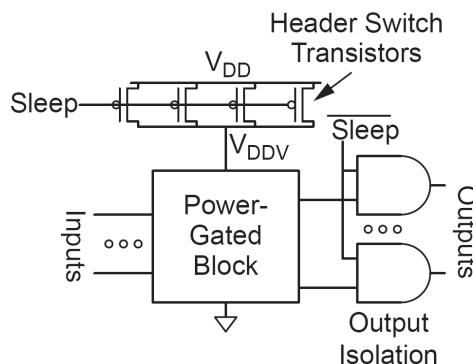

Figure 1. A power-gating arrangement with a pMOS header switch.
In Figure 5.24 in Weste & Harris (repeated below in Figure 1) a pMOS header switch for power gating is seen. Such a switch is used to turn off the static power consumption when a block is not in use. The header switch should be designed such that it does not cause too large an increase in the delay when the gated block is operating. Suppose the pMOS transistor has an ON resistance of $2.5 \text{ k}\Omega \mu\text{m}$ and the block being gated has an equivalent ON current of 100 mA. V_{DD} is 1.2 V for our process as usual.
- a) Write down the spans for the nine black and six grey PG cells that are numbered in Figure 1. As an example for the black cell, which is above grey cell number 2, the span is 3:2. See also Figure 11.29 in Weste & Harris (this chapter can be downloaded from the CMOS VLSI web site).
- c) If we assume just straight lines in the white space at the bottom of the tree in Figure 1, which of the 32 sums cannot be formed from the tree as shown in Figure 1?
- e) If we (incorrectly) assume that all black and grey PG cell have the same propagation delay (which we call 1 unit delay), which sum(s) will be done last with your solution from task d)? List ALL sums that have this propagation delay. How many PG cells do these longest (critical) paths contain? Ignore the buffers (triangles) shown Figure 1 when you find these paths. It may be helpful to draw the paths in attached schematic and submit it with your solution.